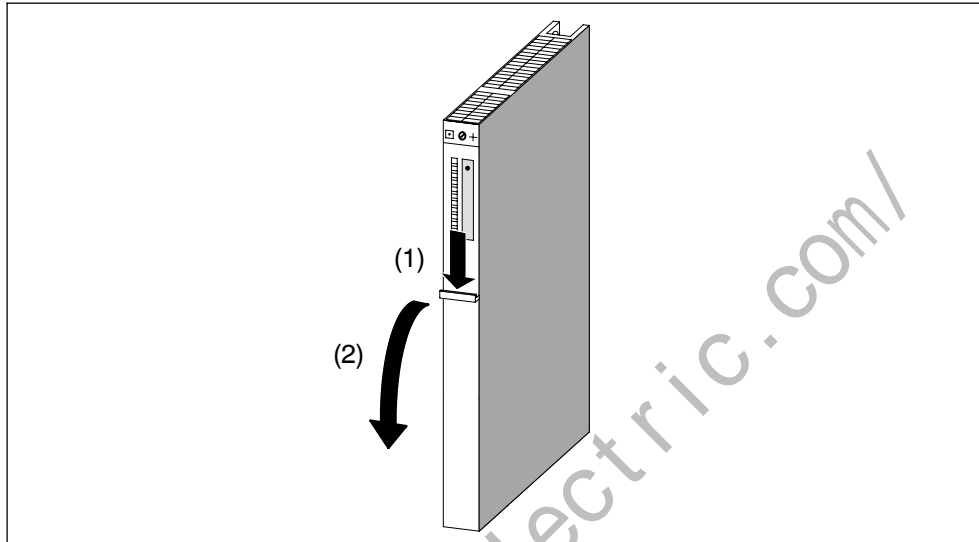

Figure 2-3 Removing the Cover
2. Remove the cover, if applicable, from the module (see Figure 2-3).